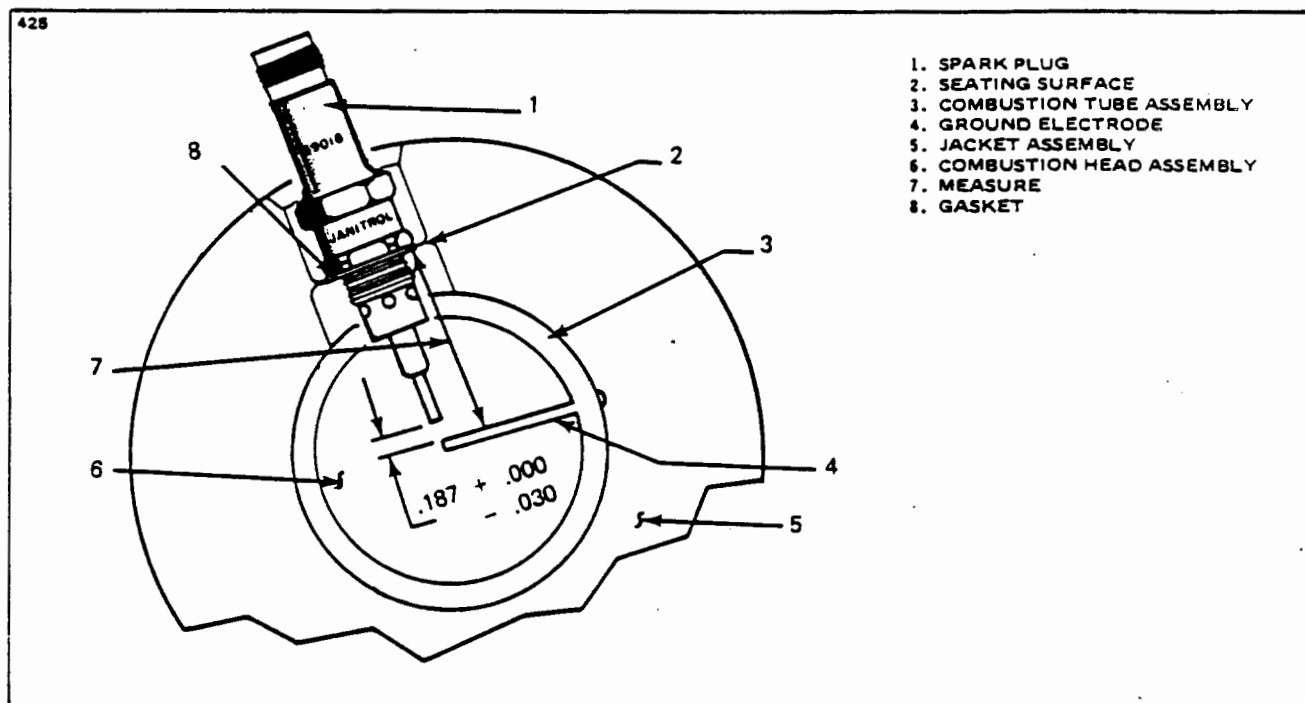

Figure 21-12. Spark Plug Gap Adjustment
3. Spark Gap Check and Adjustment: (See Figure 21-12.) A spark gap of 0.156 to 0.188 inches must be maintained on the P/N 39D18 spark plug. This gap should be checked any time a plug is replaced or at the time of heater overhaul. A spark gap greater than that specified can shorten the life of the ignition assembly. There are several methods in which the spark gap of this heater may be checked. Method I is recommended when the heater is being overhauled and before the installation of the fuel nozzle. Methods II and III are suitable for checking the gap through the spark plug well when the heater is not disassembled.
4. Installation: (Refer to Figure 21-12.)